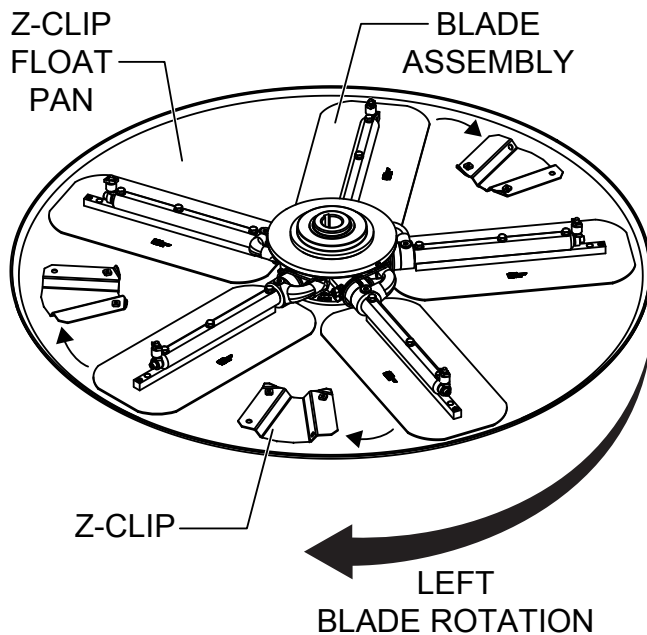

Figure 3. Securing Blades Under Z-clips
4. Slowly lower trowel onto Z-clip float pans as shown in Figure 3.
5. Rotate the blades into position under the Z-clips as shown in Figure 3.